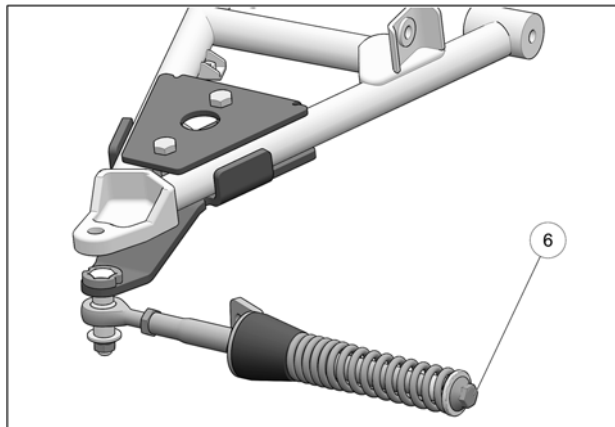

Fig. 17
8. Verify that spring assembly bolt (6) is tightened to the recommended torque specification: 75 N•m [55 lb•ft]. Refer to Fig. 17